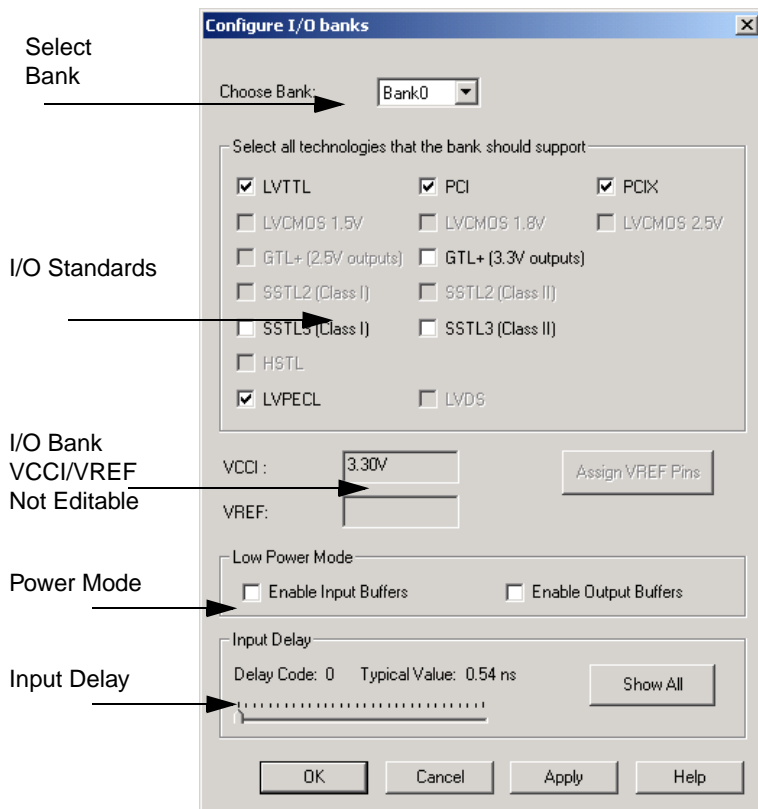

Figure 2-3. Configure I/O Banks Dialog Box
2. **From the Edit menu, click *Configure I/O Banks*.** The Configure I/O Banks dialog box is displayed, as shown in Figure 2-3.